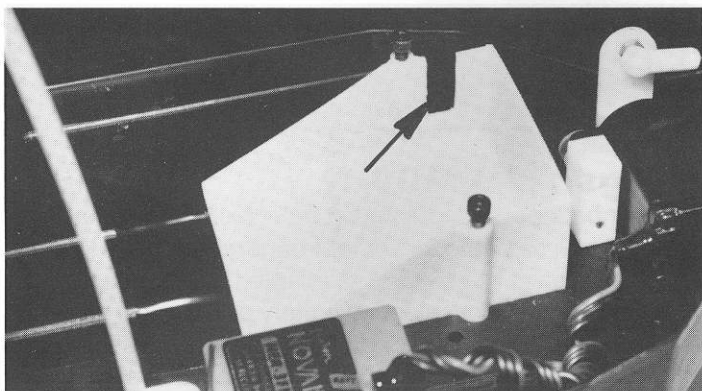

Fig. 182
□ **Fig. 182** Before we can install the battery pack into the car, we must notch the battery cup as shown in fig. 182 so that the battery connector pin socket will fit.